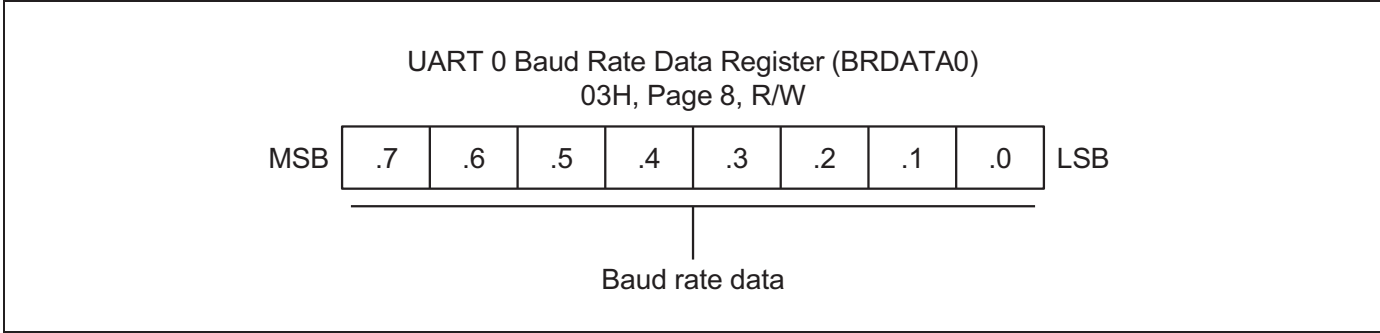

**Figure 19-3 UART 0 Data Register (UDATA0)**
*Figure 19-3* illustrates the UART 0 data register (UDATA0).